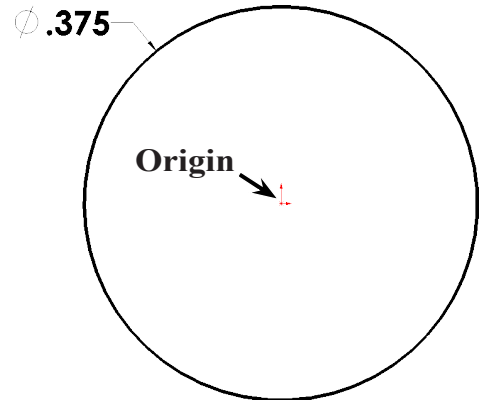

Fig. 2
Step 3. Click **Circle**  (S) on the Sketch toolbar.
Step 4. Sketch a circle starting at the Origin , **Fig. 2**.
Step 5. Click **Smart Dimension**  (S) on the Sketch toolbar.
Step 6. Dimension circle **diameter 3/8**, **Fig. 2**. The dimension will convert to decimal .375.